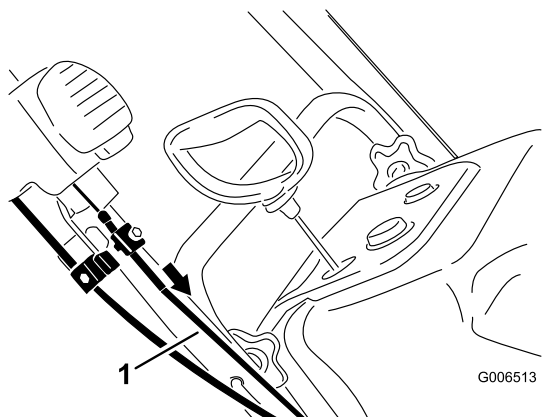

Figure 44
5. Pull the upper cable casing forward until you remove the slack in the cable, and tighten the screw on the upper cable clamp securely (Figure 44).